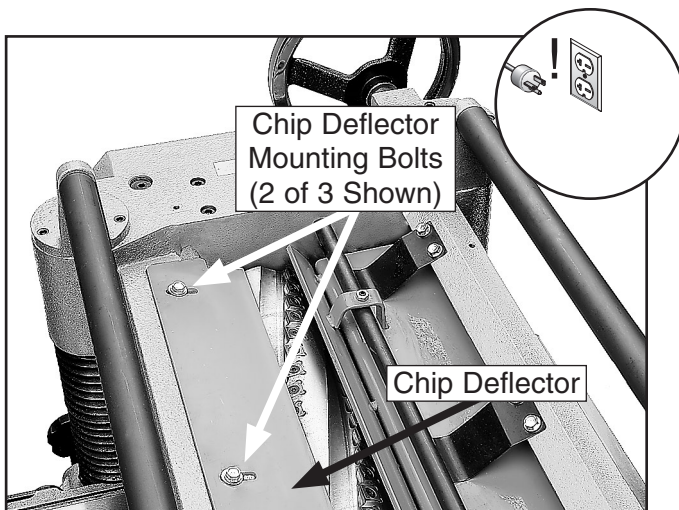

Figure 34. Chip deflector and mounting bolts.
3. Loosen the chip deflector mounting bolts (see **Figure 34**).